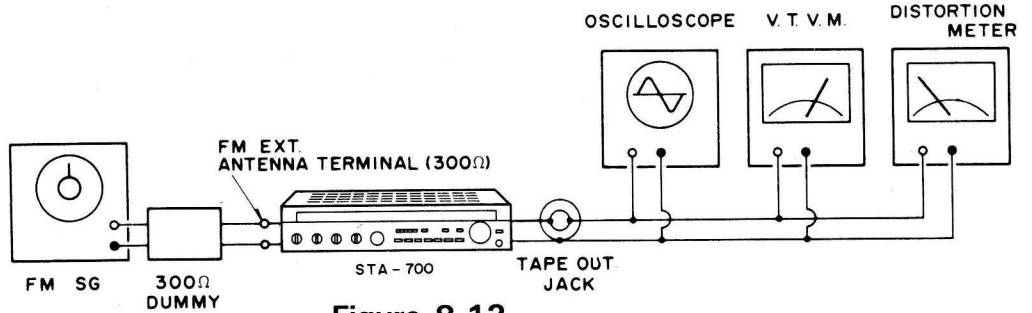

Figure 8-12
- Connect Oscilloscope, Distortion meter and V.T.V.M. to TAPE OUT Jack. (See Figure 8-12.)
- Same equipment connection as Figure 8-12.